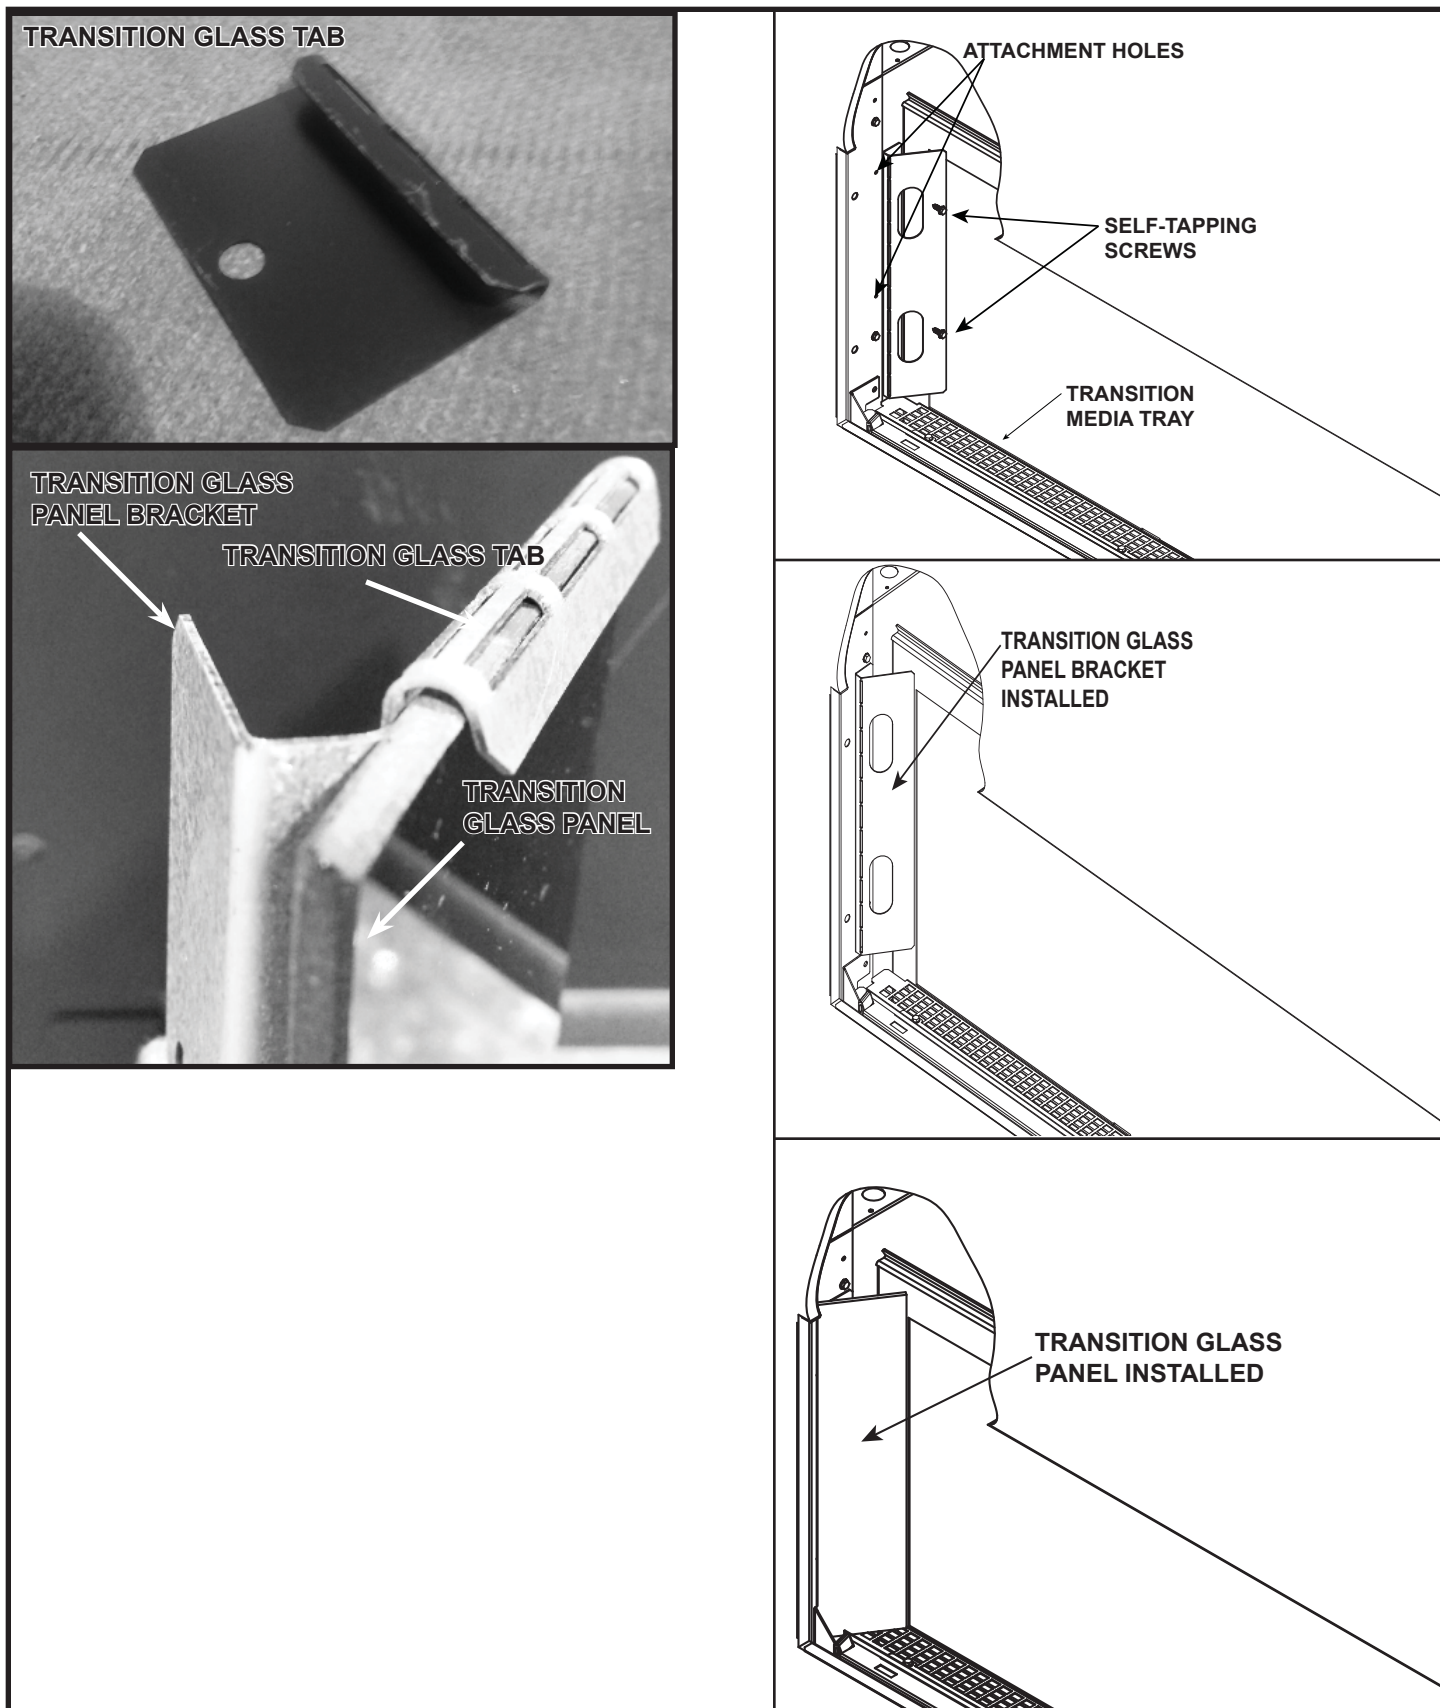

Figure 10.16 Install Transition Glass Panel
7. Set transition media tray into position as shown in Figure 10.16. The return bends are at the bottom of the tray. The rear return bend should be positioned in between the glass frame and the glass frame bracket. Ensure tray is positioned flush with appliance opening.
9. Install transition glass panels by securing with tabs on left and right sides of appliance. See Figures 10.16 and 10.17.